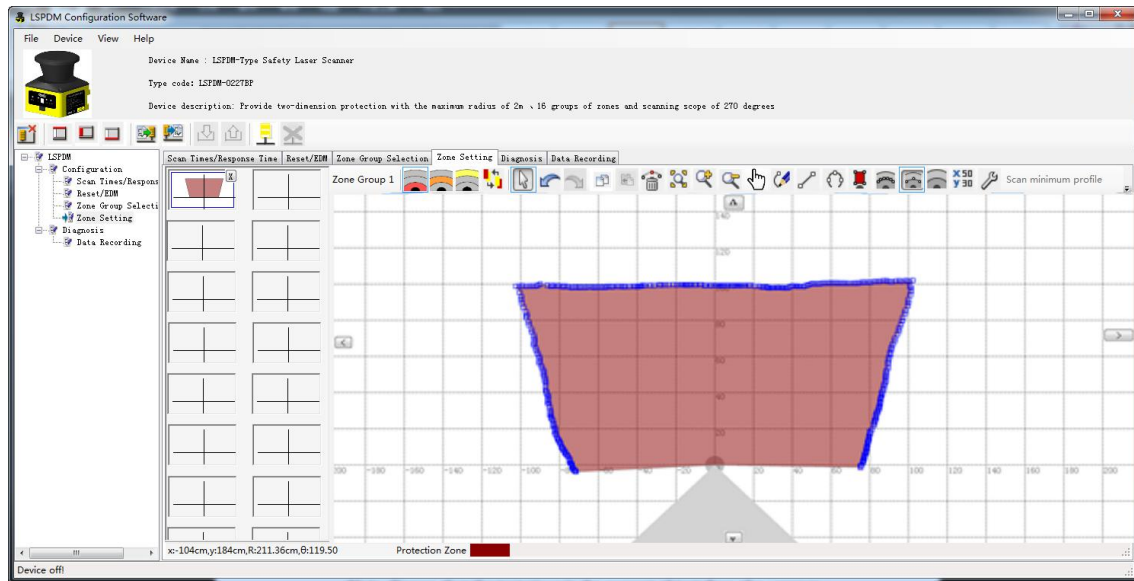

Fig.3.2.7 Scan minimum profile
Step①: Click **【Scan minimum profile】** on the toolbar and make the test specimen to move around the protective zone boundary. The scanner will generate the smallest surroundings profile and make it protective zone boundary and update it constantly, as shown in Fig.3.2.7.